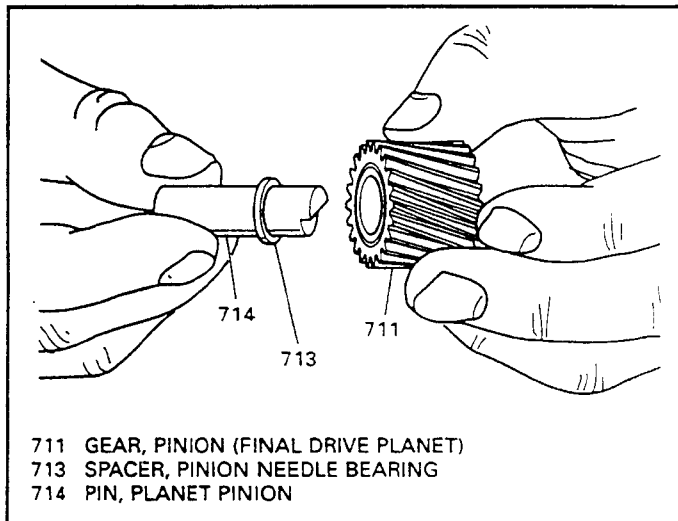

Figure 101
16. Install the pinion gear needle spacer (713) onto pinion pin and install inside of the planetary pinion gear as shown in Figure 101. The spacer must be assembled between the two rows of needle bearings.